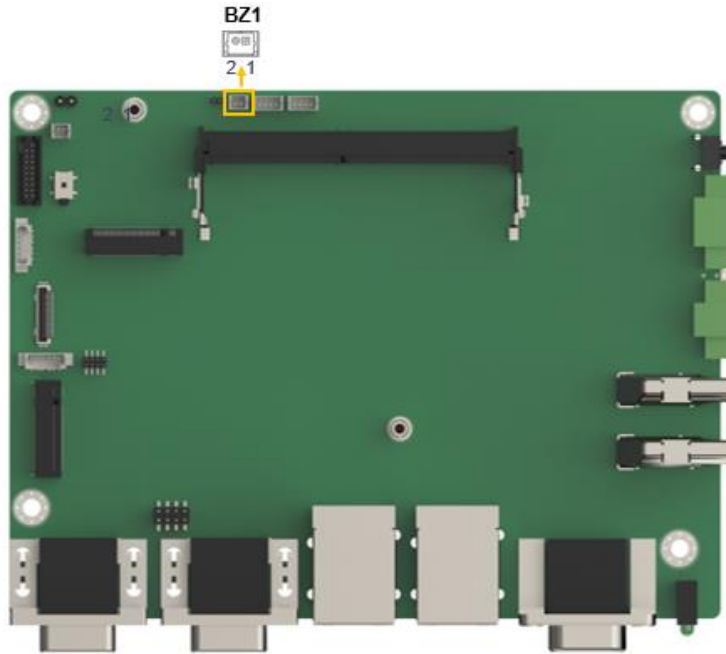

Figure 4-8: Buzzer Connector Location
- CN Location:** See **Figure 4-8**